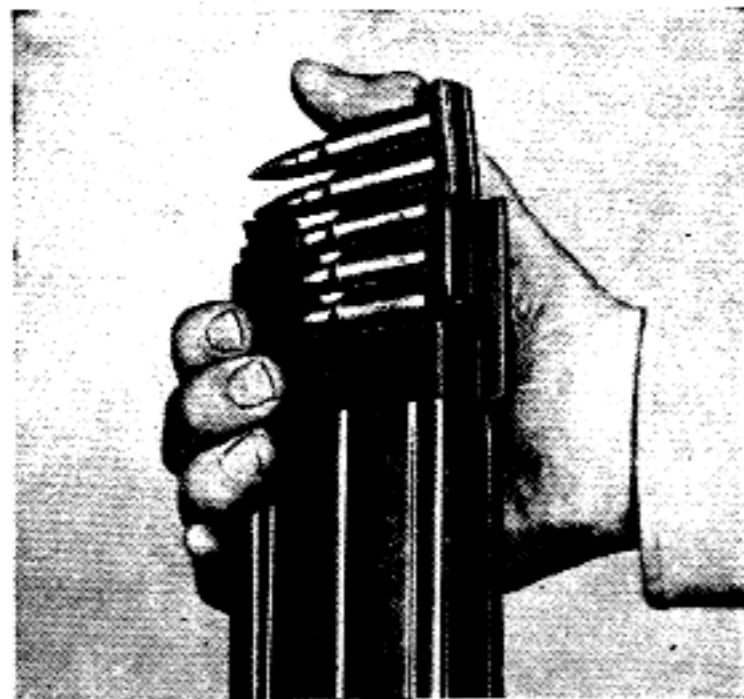

Fig. 3
- Insert a loaded clip into the rear guide of the magazine filler (fig. 3).